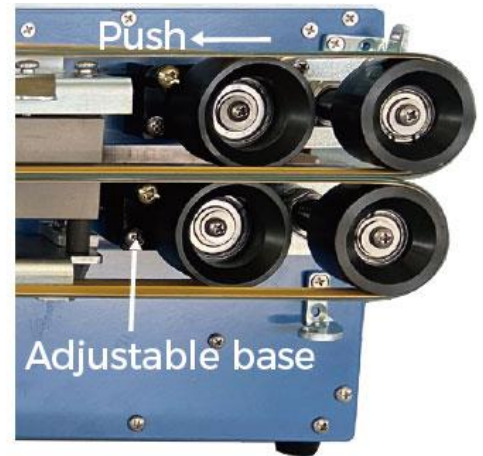

Fig. 7-4
4. Push the adjustable base and take off the worn out welding belts. (Fig. 7-4)